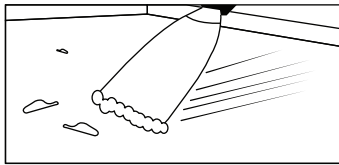

Fig. 6
STEP 01 Push loose food debris into the grease cup with spatula or straight metal scraper. (See Fig. 6)